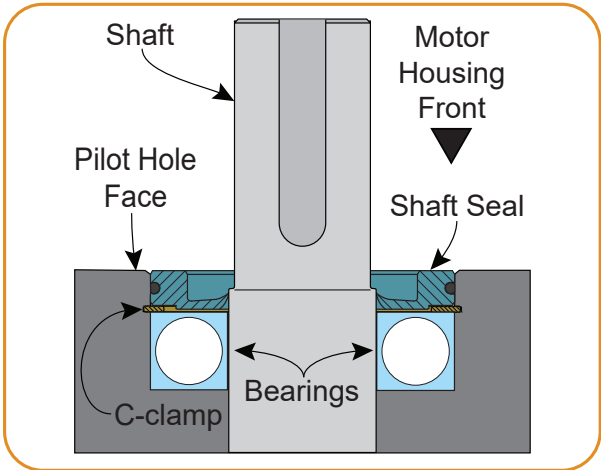

Figure 3-9: Flush seal
- Proper installation is when the seal is flush, or sub-flush, with the front surface of the pilot. (Figure 3-9)